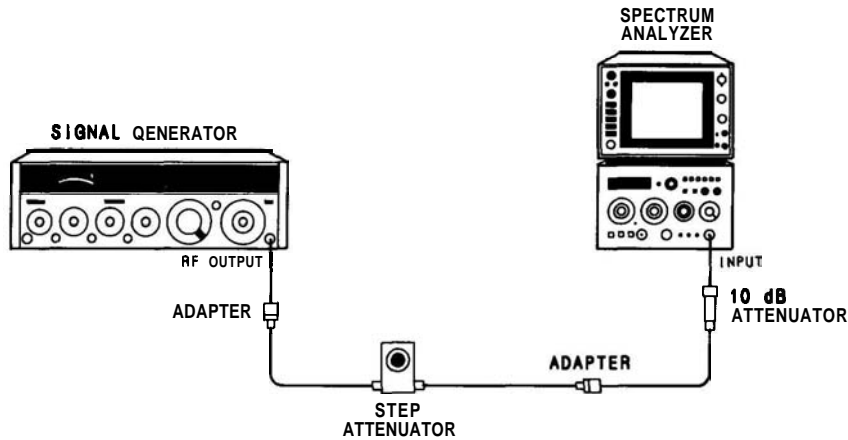

FIGURE 4-17. INPUT ATTENUATOR ACCURACY TEST SETUP
1. Connect equipment as shown in Figure 4-17 and set controls as follows: